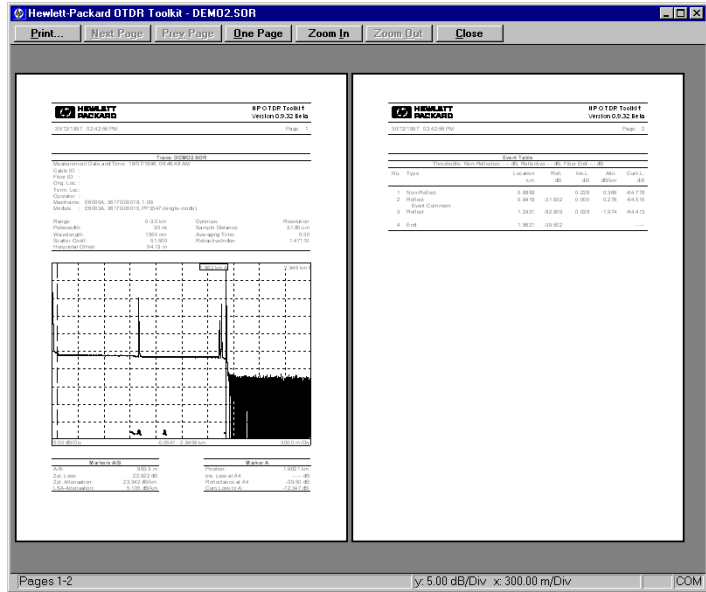

Figure 2-12
- You see a window containing one or more pages showing what the printout will look like (Figure 2-12).